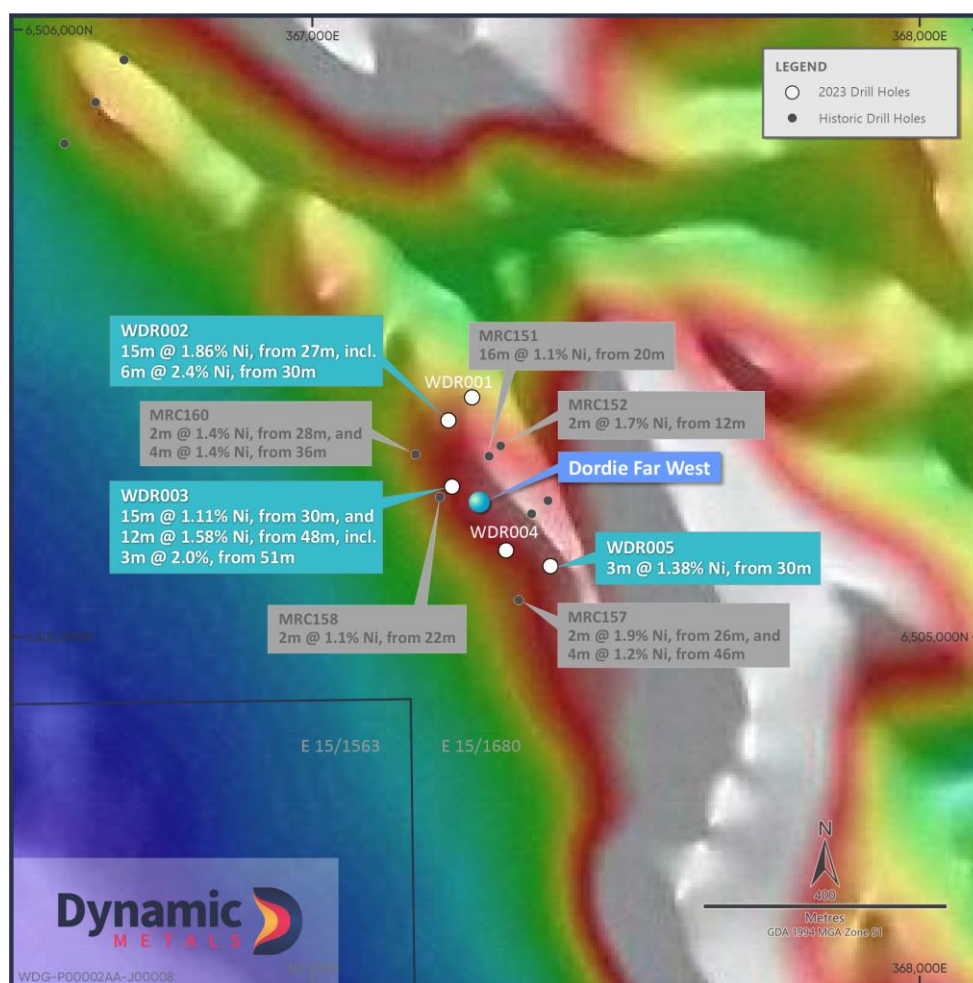

Figure 1: Drill hole positions and significant results at Dordie Far West
DFW is located on the northwest margin of the Widgiemooltha dome on E15/1680, where anomalous nickel results were detected in RC drilling completed by Mincor Resources Limited (ASX:MCR) in the late 2000s (Figure 1)^{1,2}. After review of the historic data, a drill program was designed to test for Kambalda komatiite type massive sulphide mineralisation interpreted to occur where the base of the komatiite stratigraphy is in contact with the underlying basalt, known as the ‘basal contact’.
Five Reverse Circulation (RC) holes were drilled for a total of 736m at the prospect in February 2023, with drilling undertaken on four sections over a strike length of approximately 300m (Figure 1). Drill hole collar positions and significant drill hole results from 3m composite RC samples are shown in Figure 1: and Table 1.